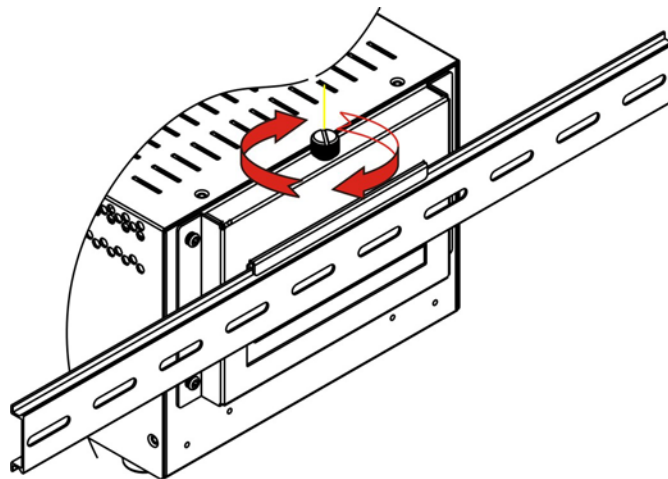

Figure 4-12: Secure the Assembly to the DIN Rail
- Step 6:** Secure the DIN rail to the mounting bracket by turning the top screw clockwise. This draws the lower clamp up and secures the embedded system to the DIN rail (**Figure 4-12**).